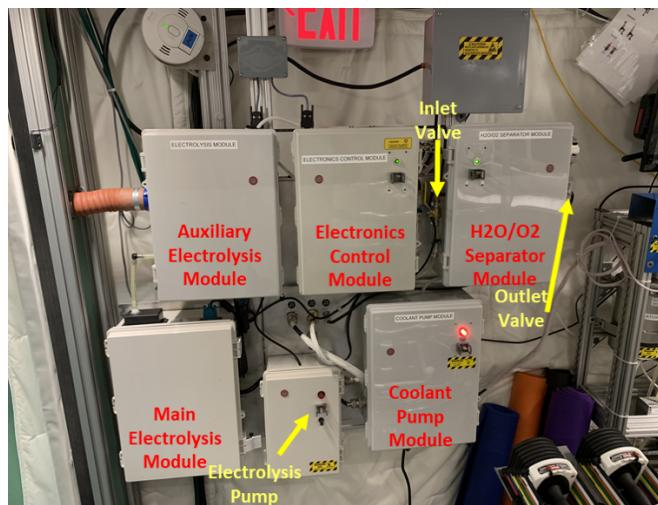

Figure 9: Solid Polymer Electrolysis System
- 4.4 Flip power switch on Electrolysis System Pump to “ON” (see Figure 9).